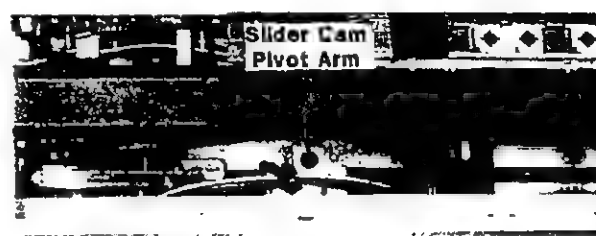

Fig. 3-2. Slider Actuating Pivot Arm
2. Loosen 1/4" hex head screw in slider cam actuating arm (Fig. 3-2).